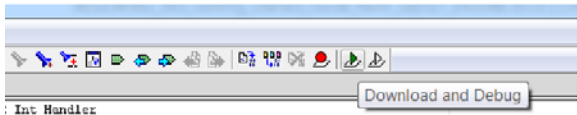
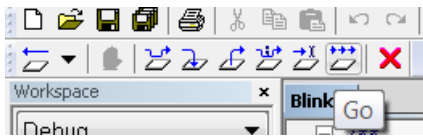

Figure 6. Download and Debug Button
Figure 7. Go Button
5. To run the code, press RESET on the evaluation board or enter debug mode by clicking the **Download and Debug** button (see Figure 6) and then click **Go** (see Figure 7).